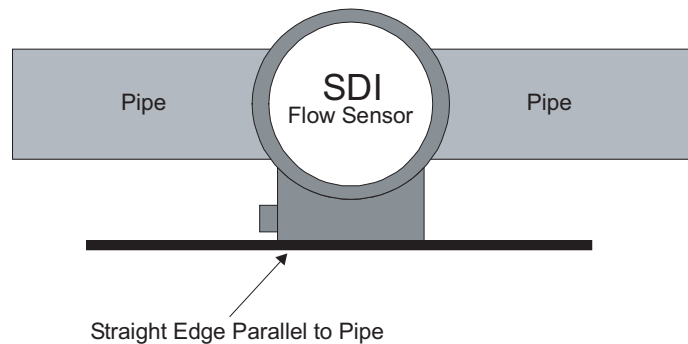

Figure 7: Align the flow sensor with the pipe
6. Continue to insert the flow sensor stem until the stem collar meets the cover. Thread the hex cap onto the mounting adapter but do not tighten. Align the flow sensor with the pipe by using the flat cover on the electronics housing as a guide. Place a straightedge along the cover and rotate the sensor until the straightedge is parallel with the pipe as shown in Figure 7. Tighten the hex cap over the collar approximately 10 ft-lb. The hex cap holds the sensor alignment but performs no sealing functions. **DO NOT OVER TIGHTEN.**